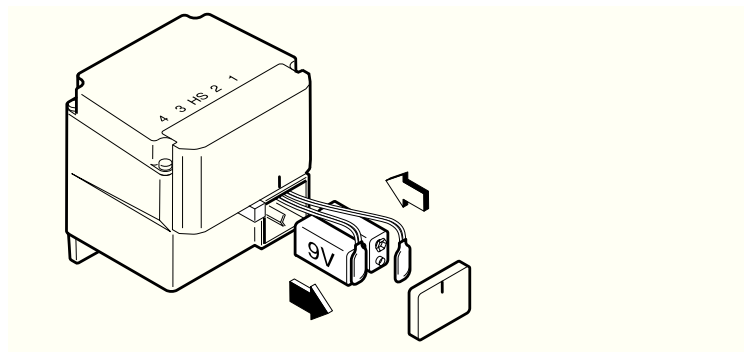

Fig. 12 – Opening / closing the battery cover
- ▶ Remove the cover (see Fig. 12).